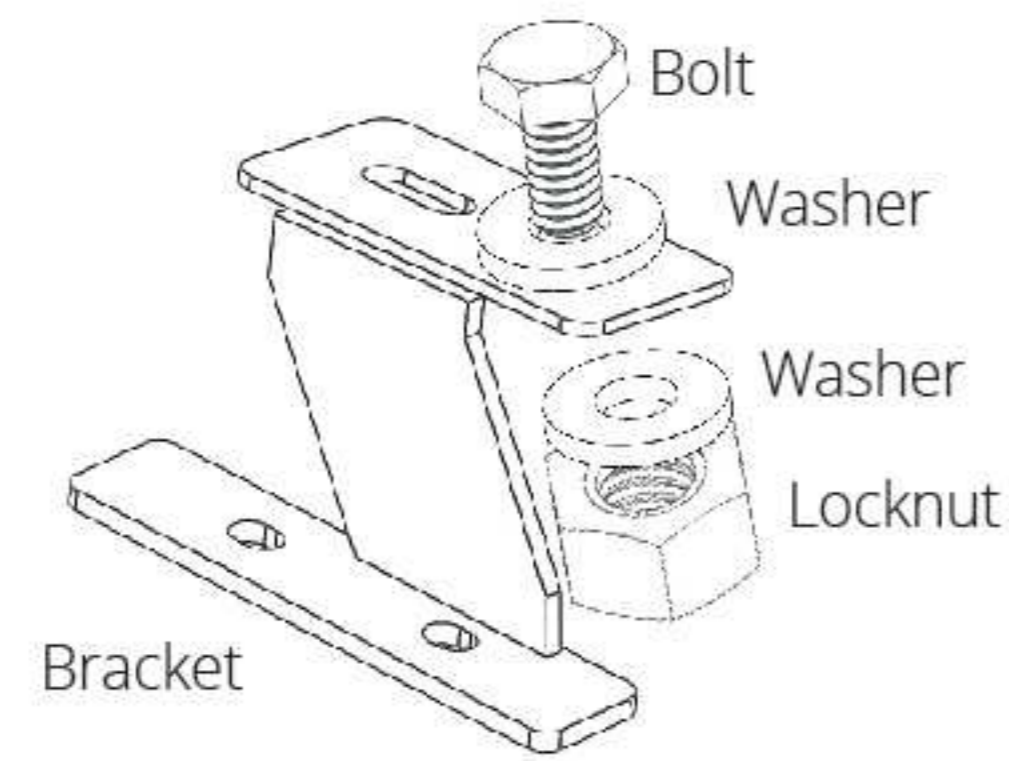

Figure 4
- 6 Remove the plastic on the bottom of the adjustable brackets and place on the plastic roof channel trim. Slide the bolt (J) and washer (L) (See figure 4) through the rack slotted plates and insert washer (L) and nylon lock nut (K).